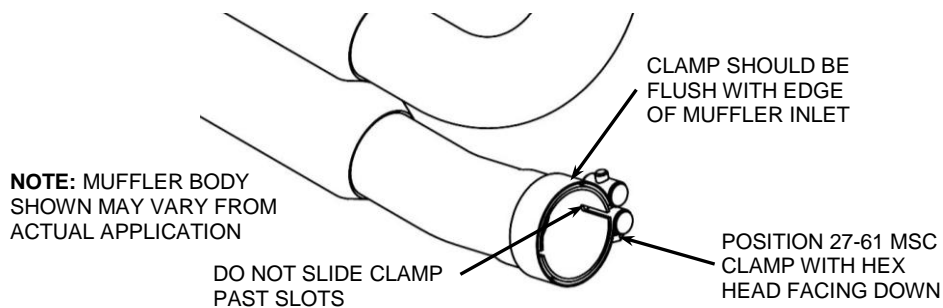

FIGURE 3
11. Position the supplied #27-61 MSC muffler clamp with hex head facing inward and down as shown in **FIGURE 3** and slide it onto the rear muffler inlet tube.
13. Secure the muffler assembly to the exhaust mount bracket using the (2) supplied 5/16"-18 bolts but **DO NOT TIGHTEN**.
14. Make sure the rear muffler assembly and front headpipe are straight and parallel and tighten in the following order; headpipe flanges to the cylinders (slowly tightening opposing nuts), muffler assembly to the exhaust mount and finally the muffler inlet clamp. (NOTE: The muffler inlet clamp should be flush with the end of the muffler inlet when tightened. See **FIGURE 3**. If the muffler inlet clamp is slid past the slots on the muffler inlet, the clamp will not tighten properly).
17. Install the front heatshield first. Slide the rear portion of the heatshield forward over the muffler while gently pushing the front of the heatshield into place between the frame and motor (NOTE: Spread the hose clamps apart slightly to make it easier to slide them over the muffler assembly and headpipes.) Make sure the muffler clamp does not interfere with the heatshield and is aligned as shown in **FIGURE 3**. Snug the heatshield clamps but do not tighten.